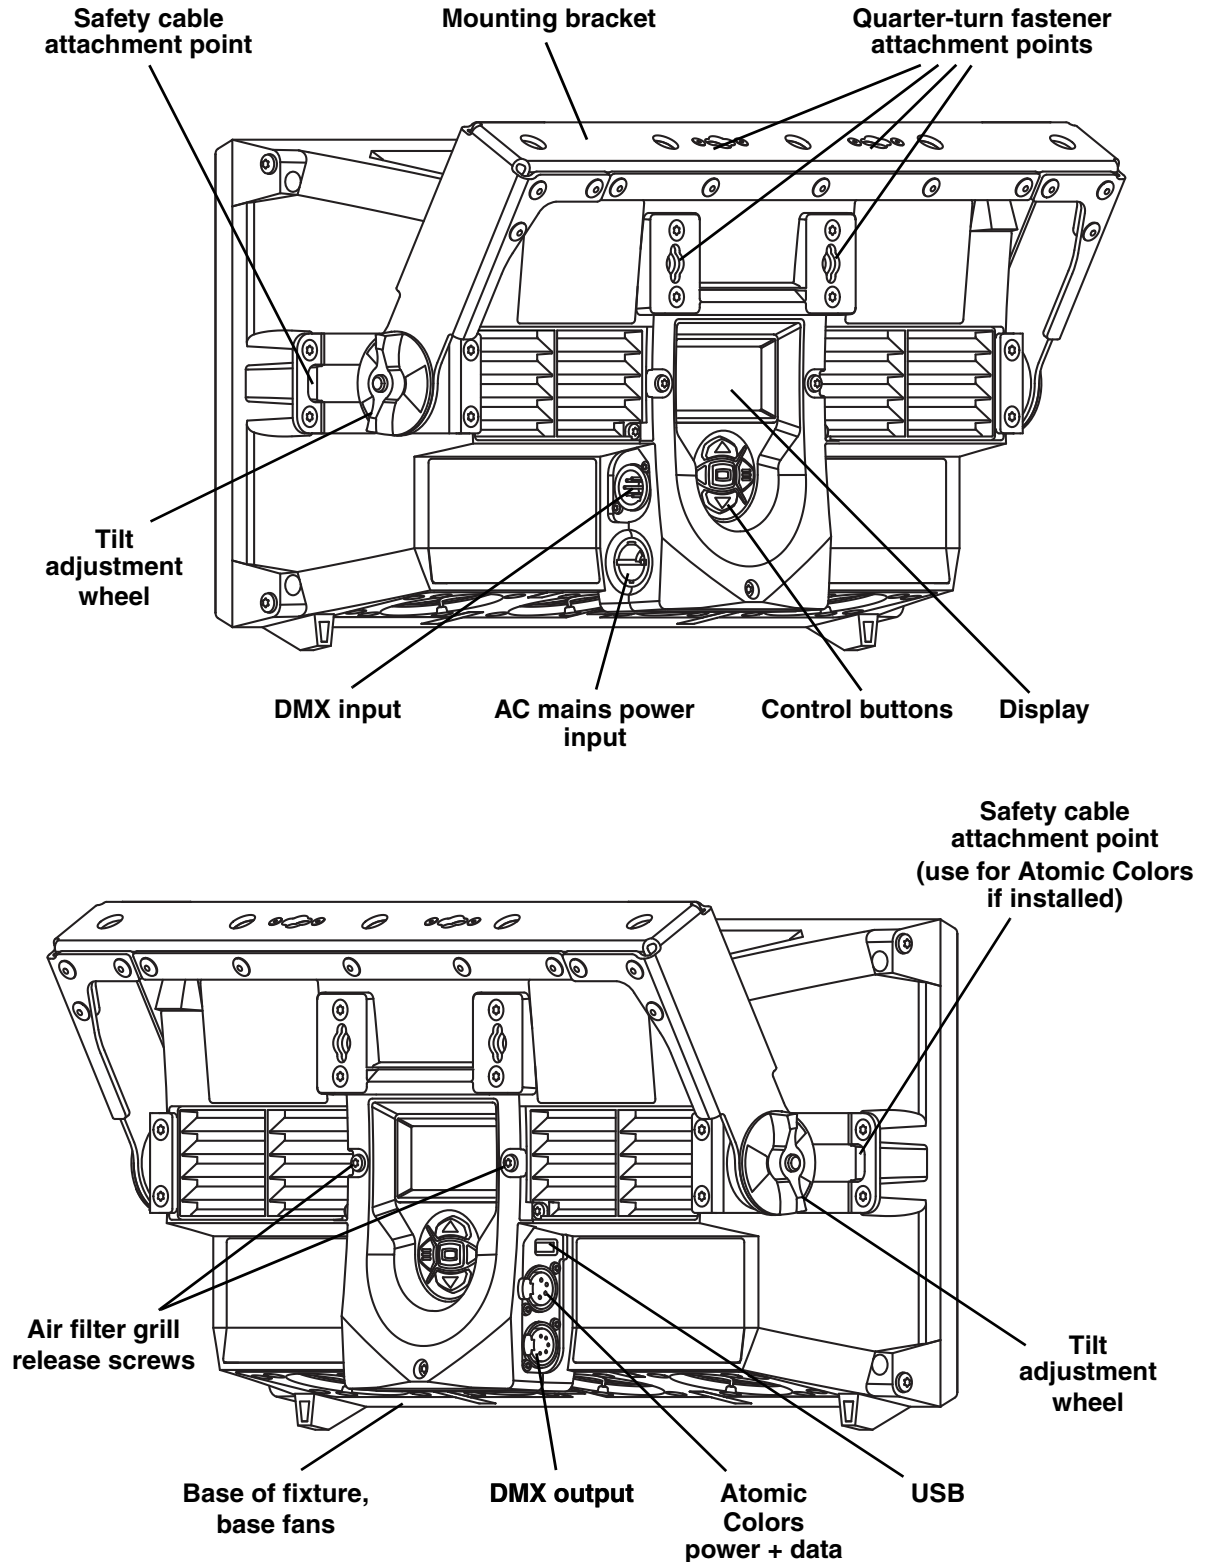

Figure 1: Fixture overview
3. If the fixture may fall and cause injury or damage if the primary attachment fails, attach an approved safety cable to a secure anchoring point and to one of the safety cable attachment points on the fixture (see Figure 1 on page 7).
4. If necessary, adjust the orientation of the fixture by loosening the tilt adjustment wheels (see Figure 1 on page 7), adjusting the aim of the fixture and retightening the tilt adjustment wheels. Apply firm pressure by hand only – do not use tools to tighten the tilt adjustment wheels.